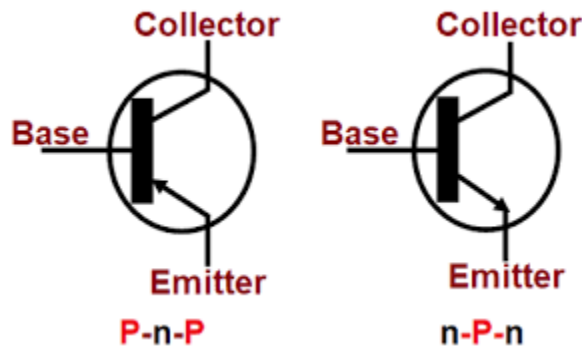

Figure 1.14: Schematic symbols for BJTs (a) PNP transistor (b) NPN transistor.
- d. Bipolar Junction Transistor:** A BJT is a three terminal device having three doped regions called emitter, base and collector. there are two types of transistors: NPN and PNP as shown in Fig. 1.14. notice that for both types, the base is narrow region sandwiched between the larger collector and moderate emitter regions.